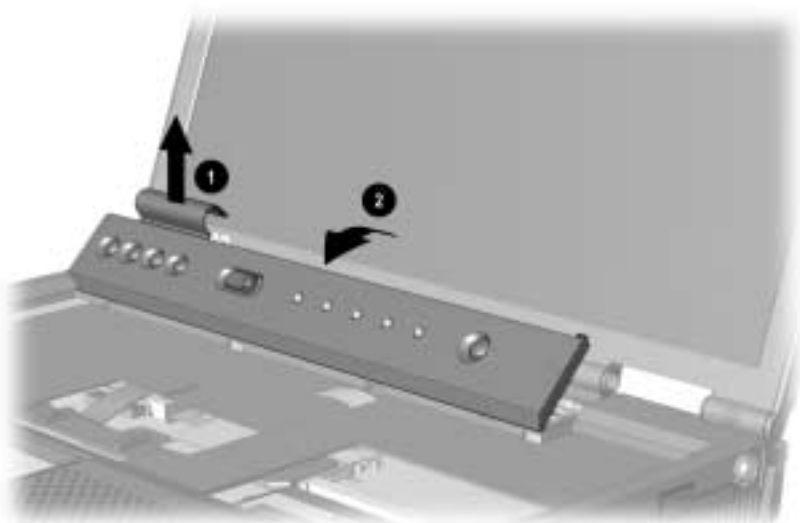

Figure 5-13. *Removing the Switch Cover*
6. Push the back of the switch cover up ❶ (Figure 5-13).
8. Swing the switch cover up and forward ❷.